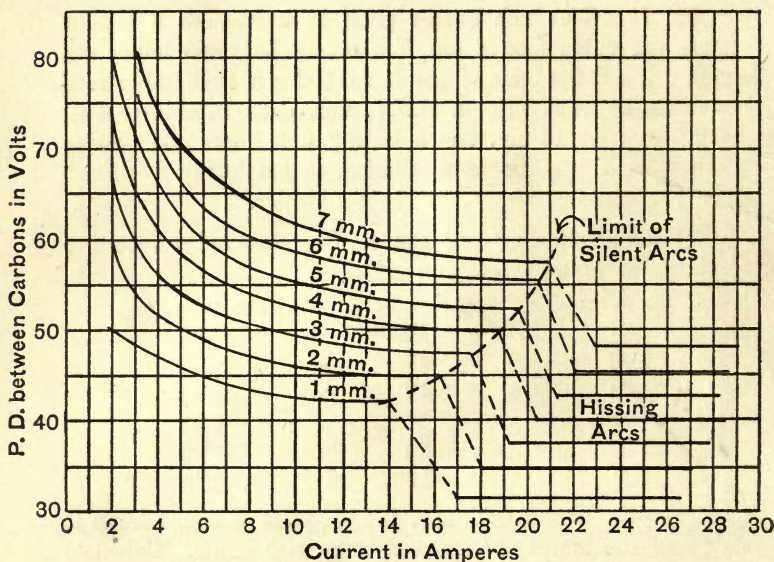

FIG. 22.—P.D. and current for different lengths of arc. Solid carbon + 11 mm., - 9 mm. diameter.
3. An arc lamp using solid carbons 5 mm. apart and taking 10 amperes is to be run off a 100 volt circuit. What resistance will it be necessary to insert in series with the arc and how many watts will be spent in the resistance? What proportion of the whole power is used in the arc? (See Fig. 22.*)
* Fig. 22 is reproduced from Mrs. Ayrton's book "The Electric Arc," by the kind permission of the authoress and publishers.
which the length of the arc can be varied and what are the greatest and smallest currents? (See Fig. 22.)